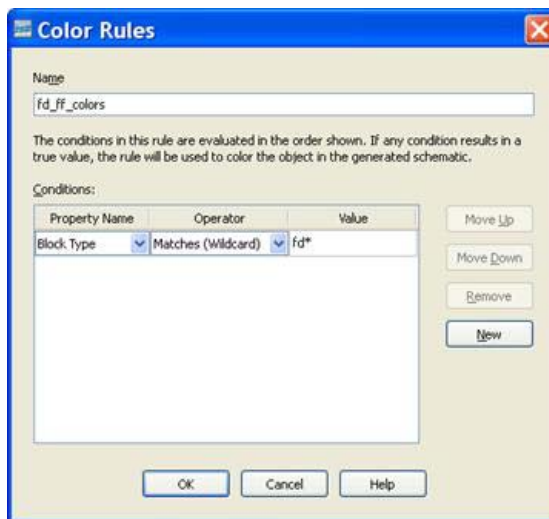

Figure 7-9: Color Rules Dialog Box
- Select **Block Type** for Property Name, select **Matches (Wildcard)** as Operator, type **fd*** as a value as shown in Figure 7-9, and click **OK**.